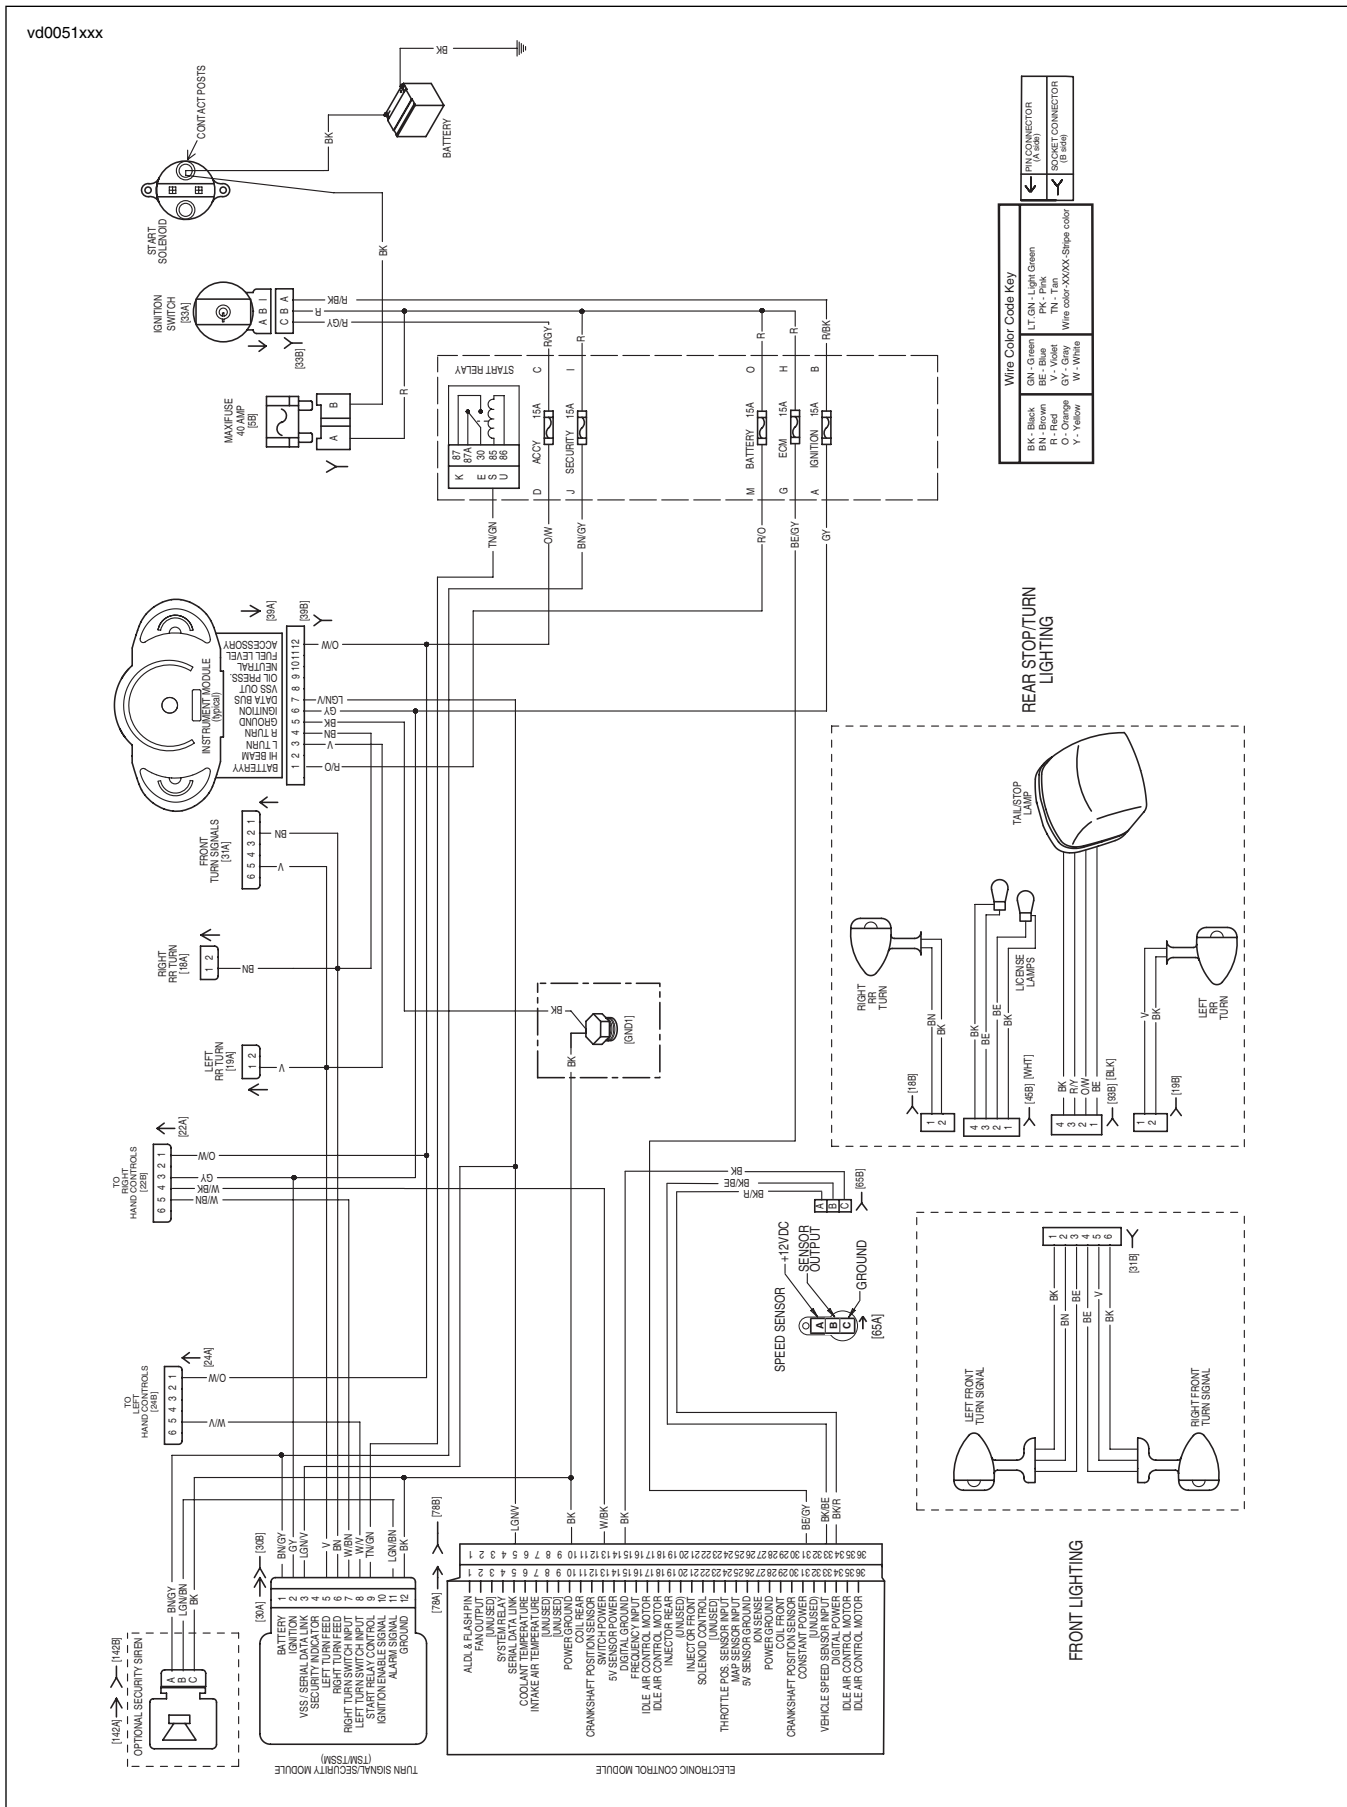

Figure 3-25. Turn Signal/Security Circuit (VRSCR)
**Table 3-15. Wire Harness Connectors in Figure 3-25.**